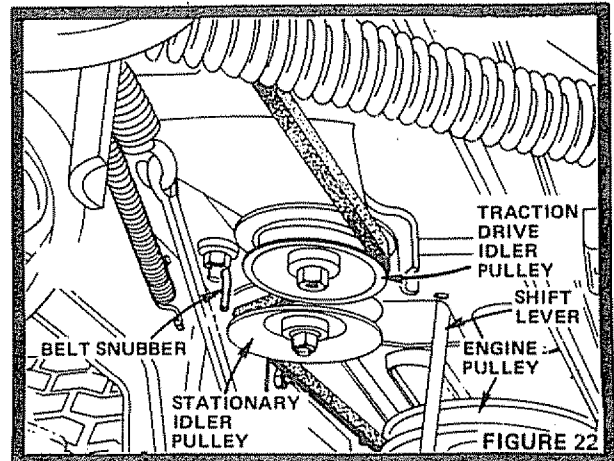

FIGURE 22
- c. Remove Mower Belt from around Engine Pulley (Fig. 22).
- d. Loosen the three Belt Snubbers (Fig's. 22 and 23) and swing away from Transaxle Pulley (Fig. 23) and Stationary Idler Pulley (Fig. 22).